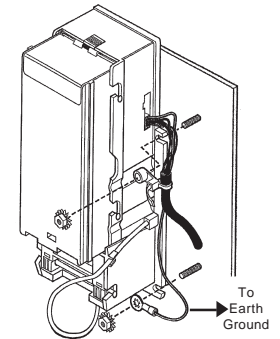

Figure 5.
4. Install the VN2500 onto the Bill Acceptor mounting studs and through the mounting hole of the vending machine. Secure using the appropriate hardware. **NOTE:** On 110V units, attach the enclosed tie-wrap to the mounting stud closest to the harness connection on the Bill Acceptor. Pull tie-wrap tightly around harness wires, including ground wire (equipped with ring terminal) to provide strain relief. **See Figure 5.**
5. On 110V units, place the ring terminal of the ground wire onto one of the mounting studs and secure with appropriate hardware. **See Figure 5.**